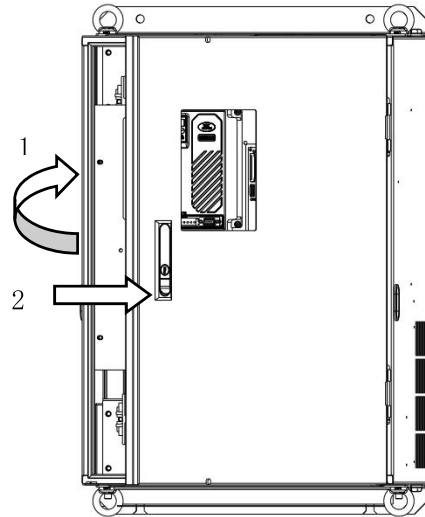

Figure 2-13 Close the door
- ① Close the door follow the direction 1 in Figure2-13.
- ② Press down the latch follow direction 2 to close and lock the door.